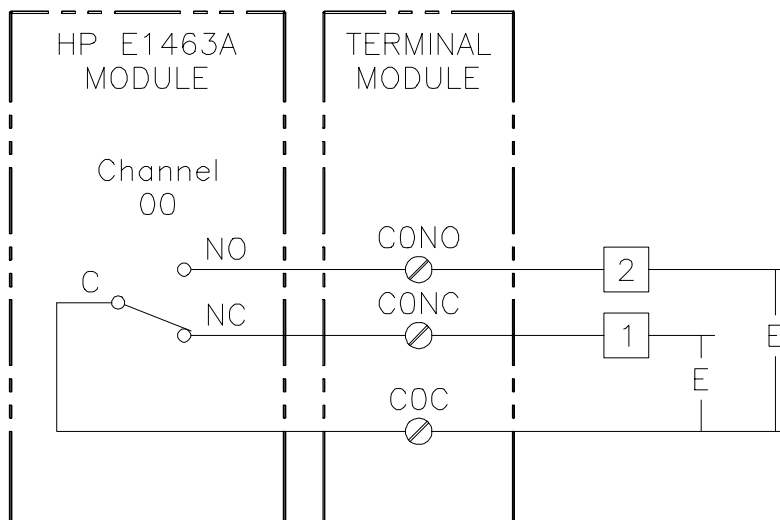

Figure 2-1. Voltage Switching
This example closes channel 00 of a Form C switch module to switch the load voltage (E) from load 1 to load 2. When the channel relay is open, the load voltage is applied to load 1. When the relay is closed, the voltage is applied to load 2. See Figure 2-1 for typical user connections.